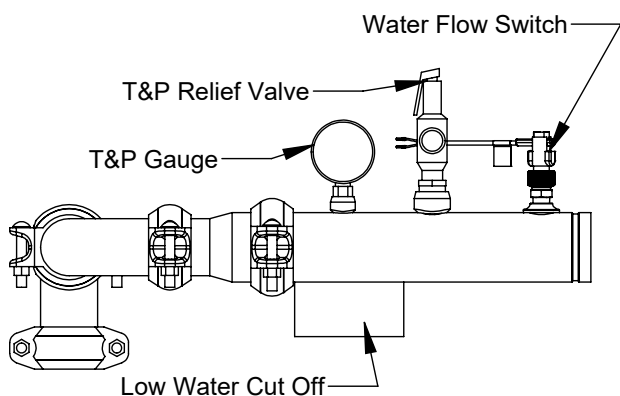

Figure 19: Hot Water Outlet Manifold (W)
2. The hot water supply line shall be connected to the outlet manifold of the appliance shown in Figure 19.
B. Factory Supplied Outlet Manifold (W)
1. A Temperature and Pressure relief valve is included with every W model. If the Relief valve is shipped loose, install it to the outlet manifold as shown in Figure 19.